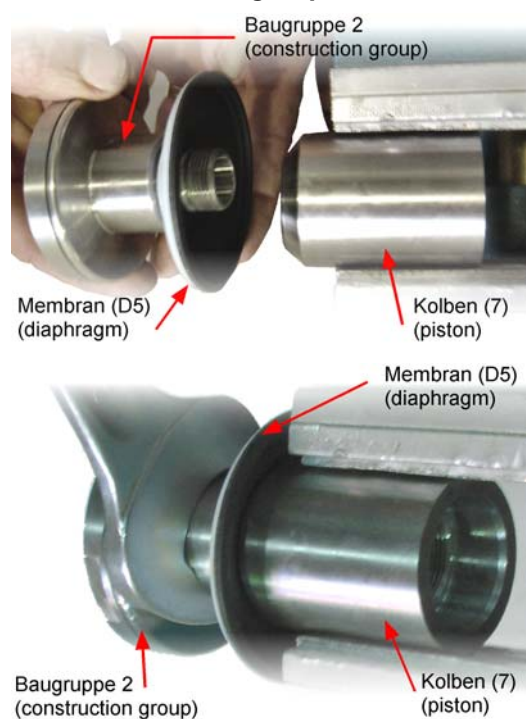

Fig. 8
- Stretch piston upper (7) in bench vice with protection braces.
- Mount plain bearing (D4) in piston upper (7).
- Put diaphragm on construction group 2 and screw in into piston upper (7) until metallic stop position (Fig. 8/Page 11).
- Apply hexagon screws (11) only in order to avoid tensions while construction group 3 is built in.
- Screw in complete construction group 3 in piston rod (12) until metallic stop position while holding against drilling (B2) by means of a round bar steel.
- Screw in construction group 1 in spindle (6).
- Centre spindle (6), piston rod (12) and lantern (8) so that the groove in the spindle (6) and the thread in the piston rod (12) are on top of each other. (See fig. 8).
- Screw in set screw (10).
- Pull tight hexagon screws (11)
- Connect control air to (LA4), piston plate upper (5) is clocked.
- Put diaphragm (D5) on lantern (8).